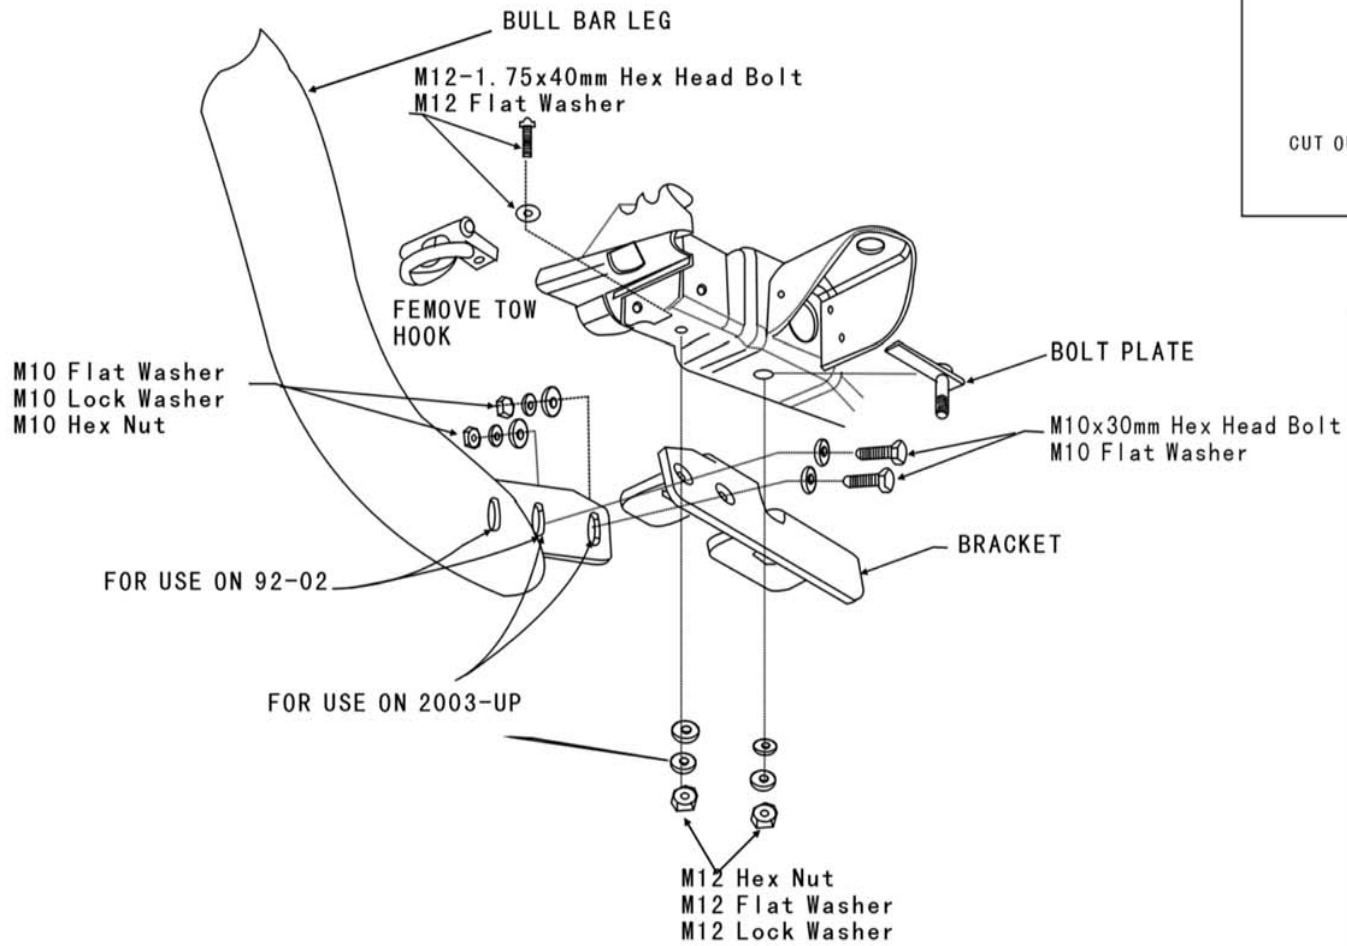

FIGURE 2 DRIVER SIDE INSTALLATION SHOWN PASSENGER SIDE OPPOSITE
4. From underneath vehicle, remove two hooks. Insert bolt plates through large holes and M12-1.75 * 40 mm hex bolts through small holes in bottom frame locations. Please see figure 2.
6. Attach bull bar to brackets using M10 bolts, flat and lock washers. Note: 1999-02 models use front and middle holes on the hoop mounting brackets. 2003-up models use middle and rear holes. See Figure 2.